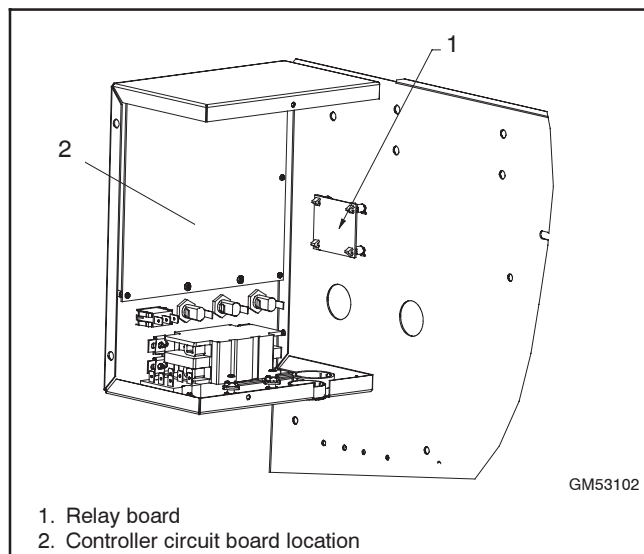

Figure 5-17 Relay Board Location
The generator set may be equipped with an optional relay board, which contains the K1 common fault relay and K4 auxiliary run relay. See Figure 5-17 for the relay board location inside the controller junction box.
1. Access the controller junction box to locate the relay board. See Figure 5-17.